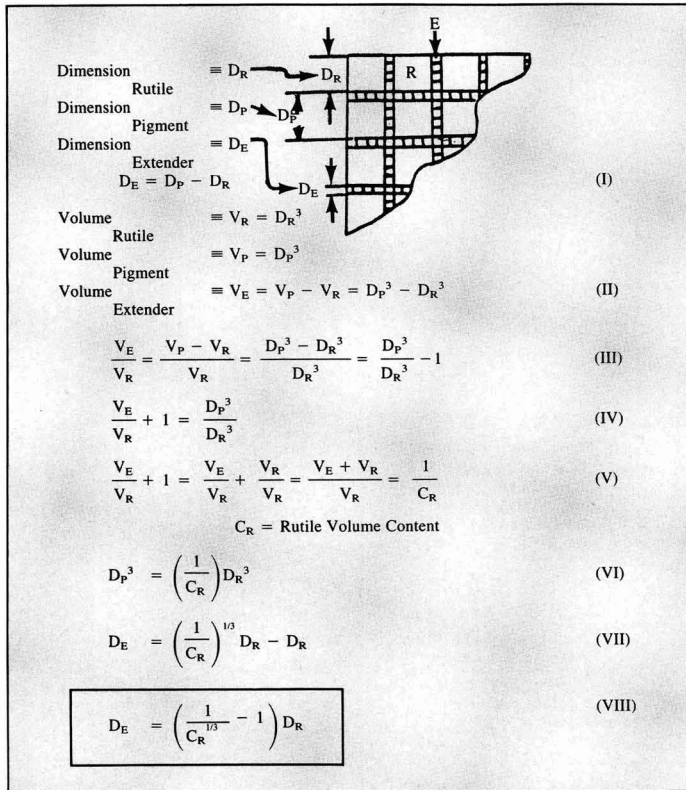

Figure 1—Optimal extender dimension. Relationship between extender size and pigment composition
(3) The mean spacing between the rutile particles, and thus, the maximum extender size that can be used for uniform spacing, is dictated by volume fraction and size of rutile (Figure 1):